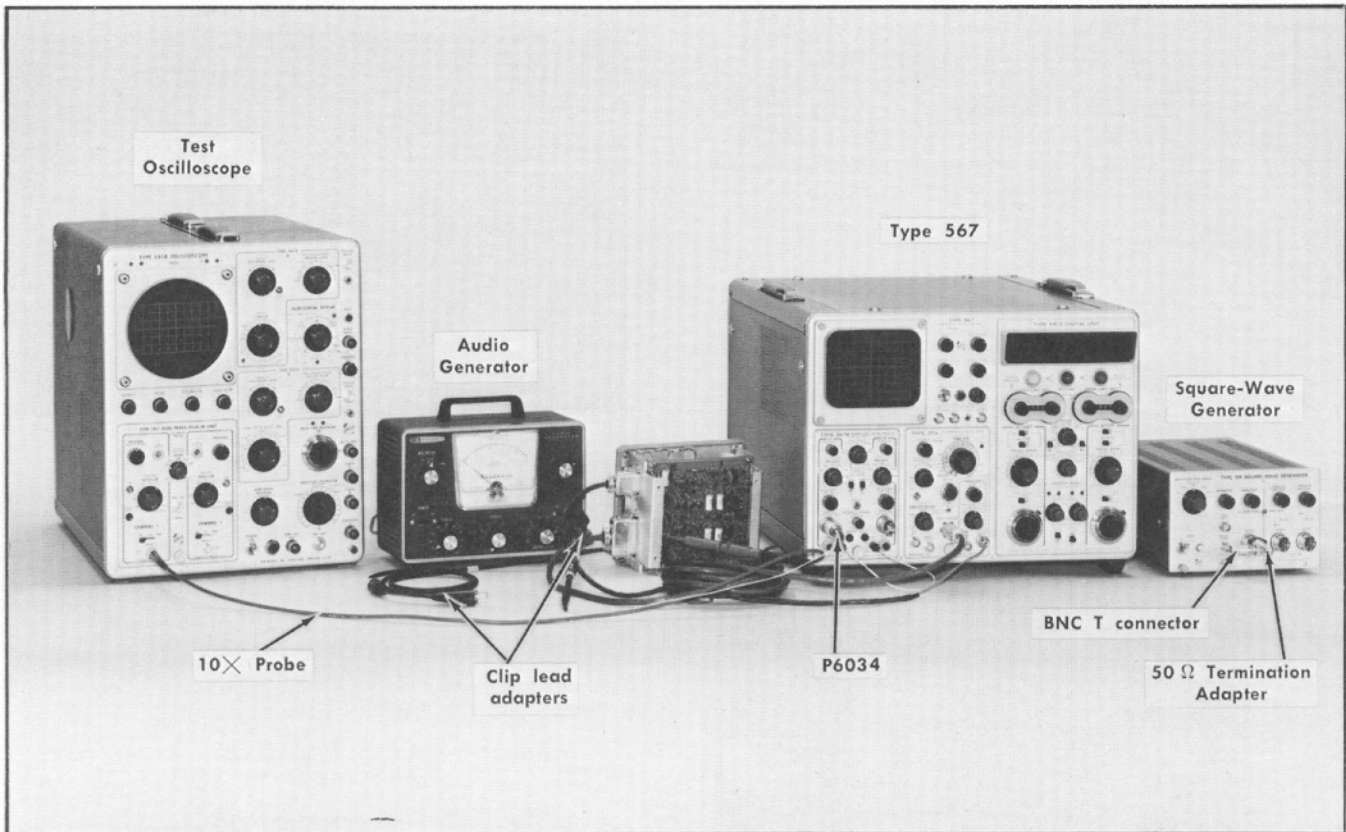

Fig. 5-8. Test equipment setup for steps 7 through 12.
a. Use the setup shown in Fig. 5-8 and set the Audio Generator output to zero.